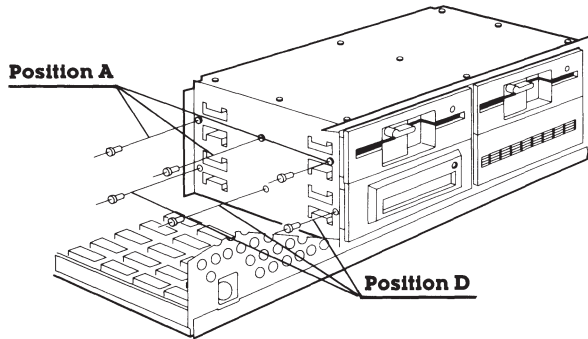

Figure 7-37. Location of the Screws for Positions A and D.
3. Remove the mounting screws on the left side of the appropriate drive housing assembly (Figure 7-37).